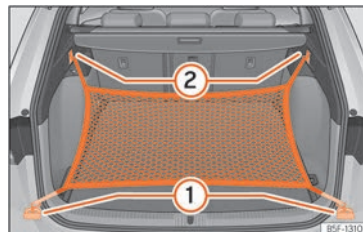

Fig. 133 In the luggage compartment: rings (1) and hooks (2) for attaching the net bag.
- Secure the short net hooks to the fastening rings »» Fig. 133 ① »» ⚠. The bag zip should be facing upwards.
- Secure the straps in the bag hooks ②.